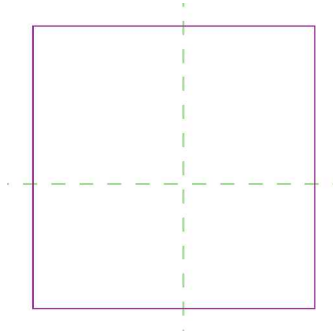

FIGURE 15-2.11 Sketch lines for 3D extrusion
17. Draw a square within the outer *Reference Planes* (Figure 15-2.11).
When creating a *Solid Extrusion*, a simple 2D outline is sketched as in Figure 15-2.11. This defines the perimeter of the extrusion. When “finish extrusion” is selected, the 2D outline is extruded perpendicular to the sketch lines to a thickness (or depth) specified on the *Options Bar*.